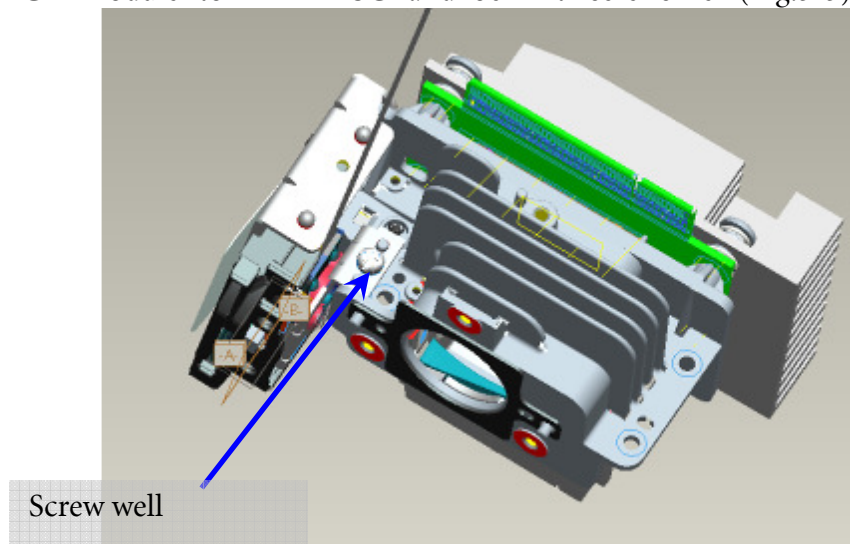

Fig. 5-5
5.5 Assemble “CW Module” to “DMD HSG” and lock with screws well (Fig.5-5).